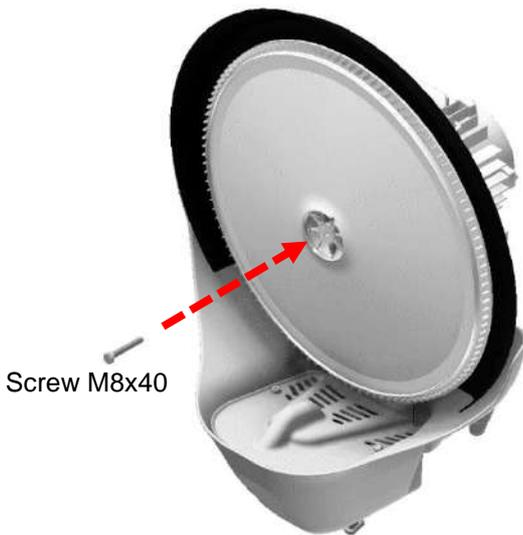

Fig. 4.4.3
- Insert the M8x40 screw supplied with the machine into the central hole of the rotating disc (Fig. 4.4.3)